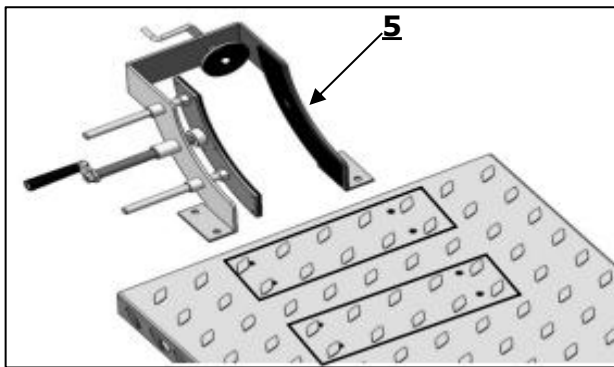

Fig.13
1.The wheel vise can be installed in two positions on the platform, allowing users to choose their preferred installation position.(See Fig 13)